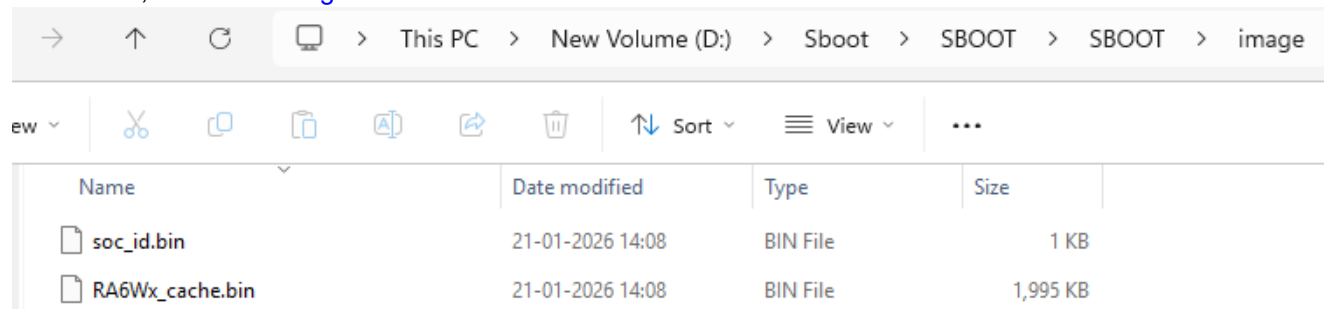

Figure 28. RA6Wx_cache.bin
- Replace the previously added dummy file `RA6Wx_cache.bin` from the `SBOOT/image` directory with the newly created file, as shown in Figure 28.